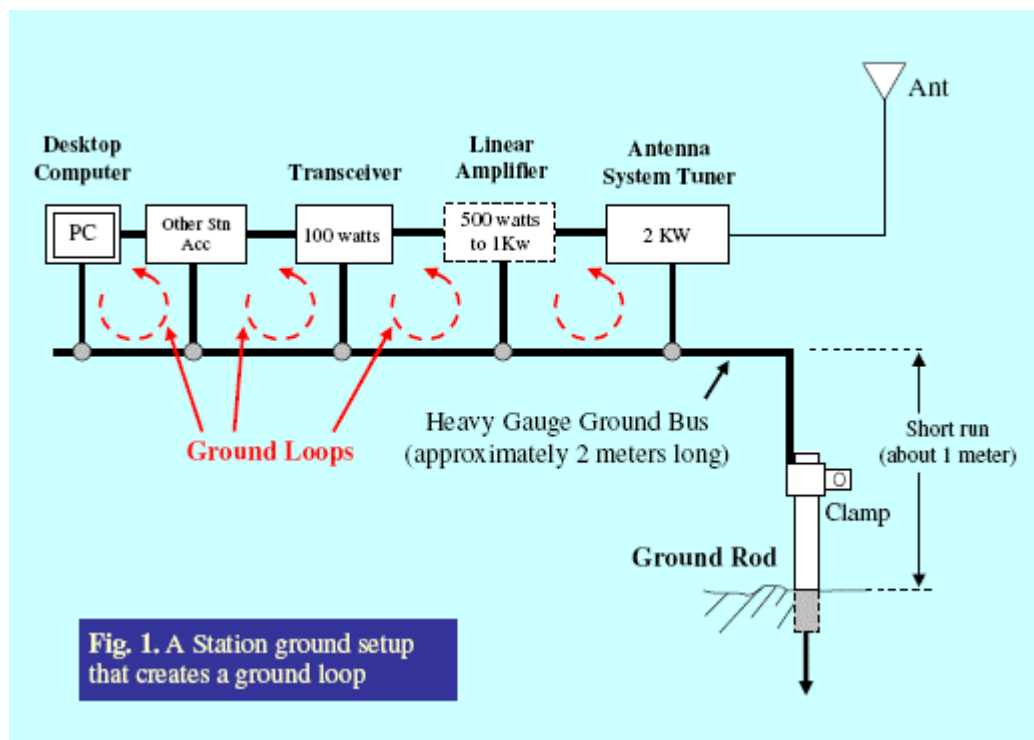

Figure 1.
This ham operator was a neat fellow. One day, he finally convinced the xyl to let him setup his own radio shack, away from the prying eyes and itchy fingers of the family kids. And so he built his own radio room on the ground floor of the home QTH. He arranged his equipment and built a good electrical ground system by laying out a heavy copper wire about 3 meters long just behind the neatly lined up station equipment. He decided to run the ground wire straight so that each equipment ground lug can accommodate a short flexible grounding wire to reach the ground bus. He did this to all of the station equipment with a very neat connection so that the individual grounding wires did not get meshed up and entangled. The remaining length of the ground bus was led outside to an effectively driven ground rod just outside, near the wall of the Radio room. This grounding setup looked like the one shown in Fig. 1.
1. Ground loops are formed when the individual ground wires of each equipment are connected to the main ground bus at a point that is distant from each other (see Fig. 1)
2. The individual station equipments already have their own ground reference but when they are interconnected, grounding each equipment to the main ground bus as shown in Fig.1 creates GROUND LOOPS. Each time a ground loop is created, a small inductive coil is formed (the ground wire completes the loop).